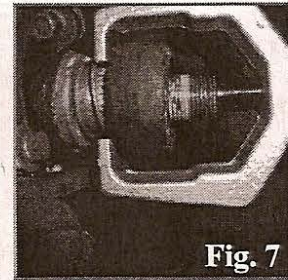
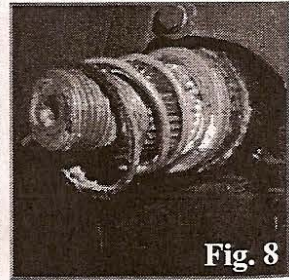

Fig. 7
Fig. 8
4. Using an impact gun and a 1-7/16" socket, I removed the nut and lock washer holding the pitman arm onto the steering gear shaft. Placing a pitman arm puller over the pitman arm (Fig. 7), I turned the screw and pulled the pitman arm off the steering gear shaft. After removing the nut, lock washer, and pitman arm, the shaft seal retaining spring, shaft seal cover and shaft seal can be removed from the steering gear shaft (Fig. 8).